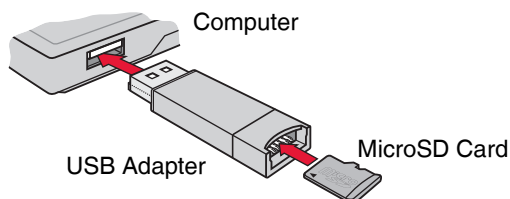

Fig. 268.
- Connect a microSD card to a USB adapter. Then connect the USB adapter to your computer. See Fig. 268.